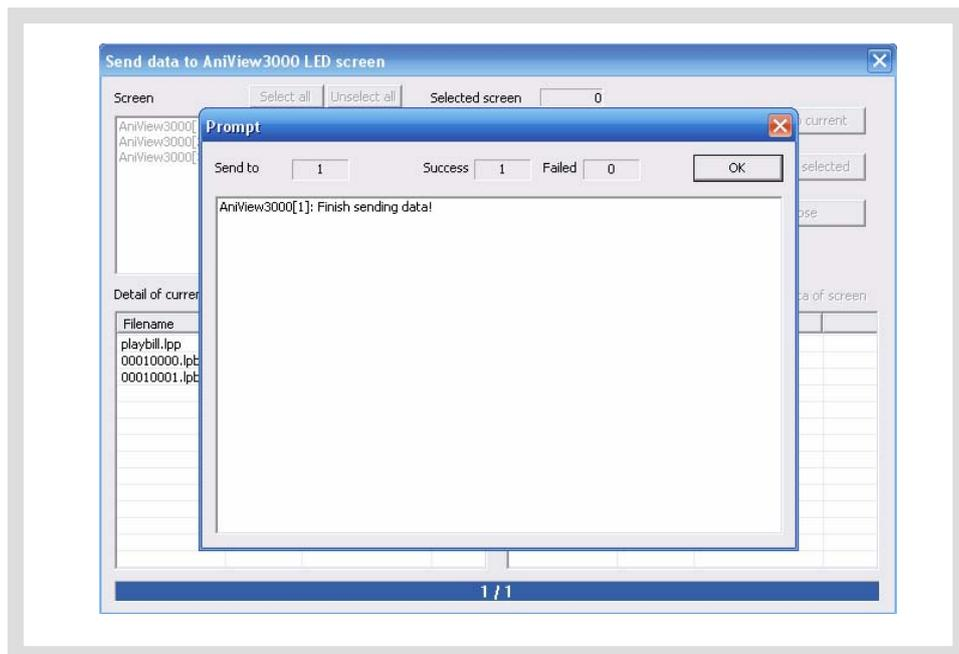

Figure26 Data sending completed
- 3) When sending is completed, the prompt box “Finish sending data” pops up, as shown in Figure26: